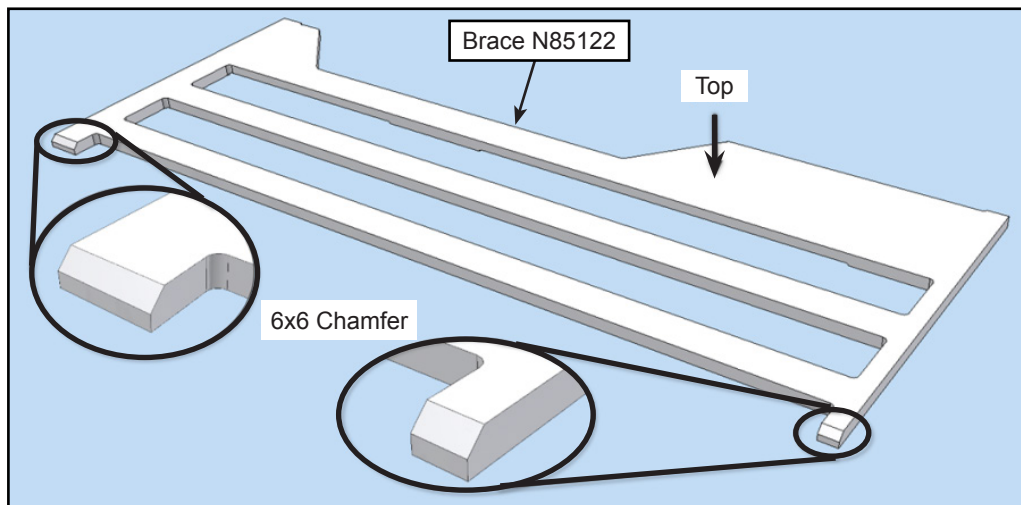

Figure 8 - Preparation of Brace
- 2.26. Before installing brace N85122 on the floor structure, add 6 mm x 45° chamfers on brace legs as shown (see Figure 8).